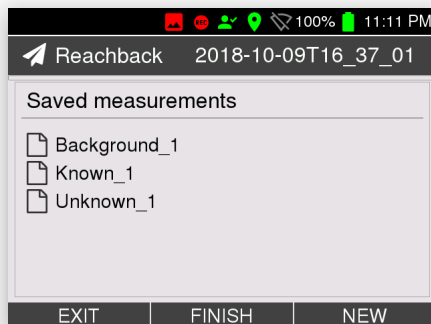

Figure 89: Collected measurements
6. Add more measurements ad libitum (Fig. 89, p. 78).